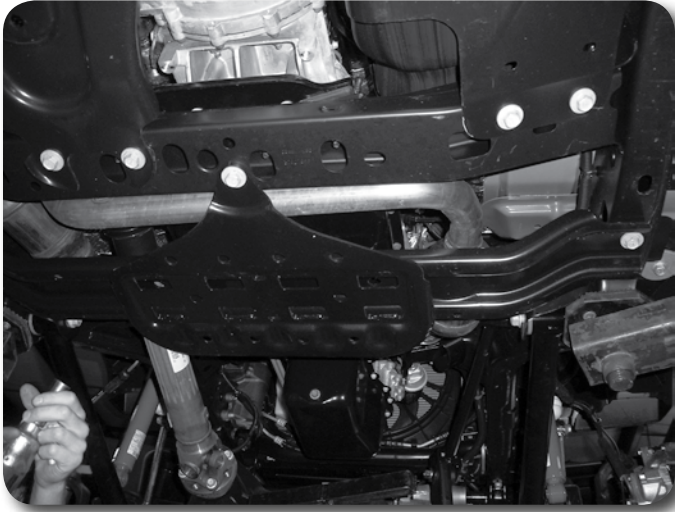

Figure 5
16. Locate the 3 bolts mounting the transmission skid plate to the frame rails and transmission crossmember. Remove the bolts and skid plate. **Figure 5**